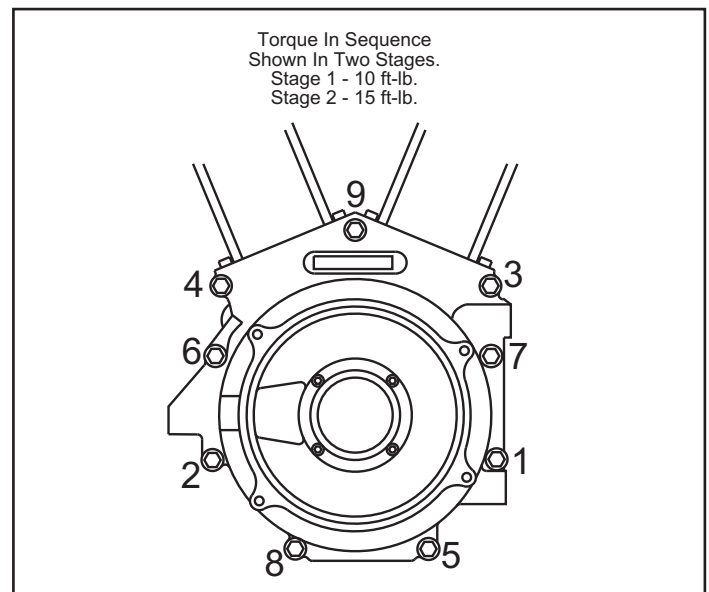

Figure 1
4. Bolt crankcases together. Use S&S® torque specs for crankcase bolts. Torque case bolts in two stages to 10 ft-lb. and finally 15 ft-lb. in the sequence shown in **Figure 1**.